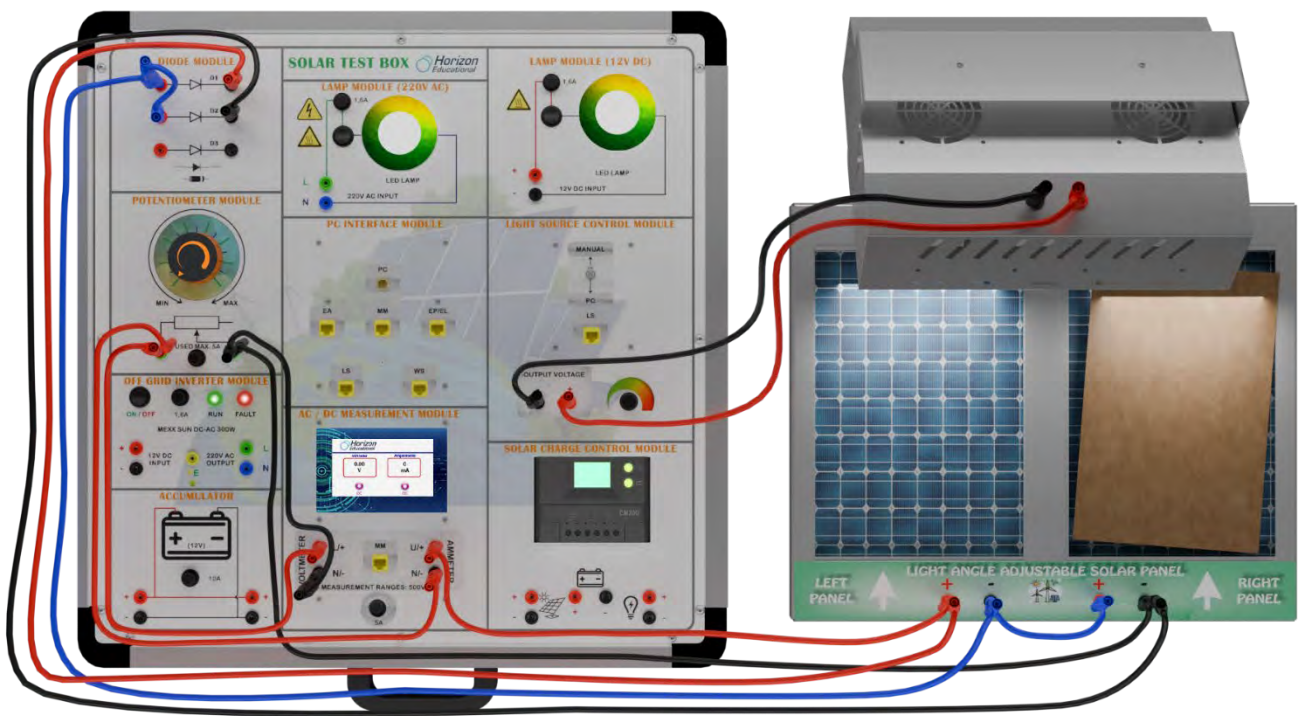

Figure-33. Installation Image of Examination of Effect of Bypass Diode in Photovoltaic Panels (with Shadow Effect)
6. Afterward, cover the other panel as shown in Figure-33. Record the values displayed by the voltmeter and ammeter in the DM Module in Table-25.